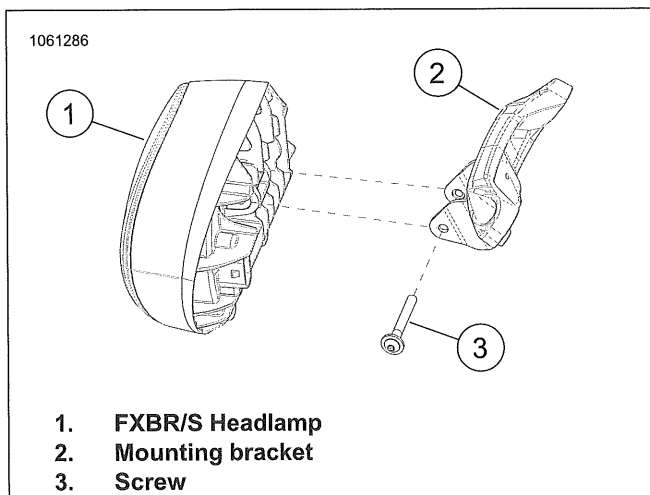
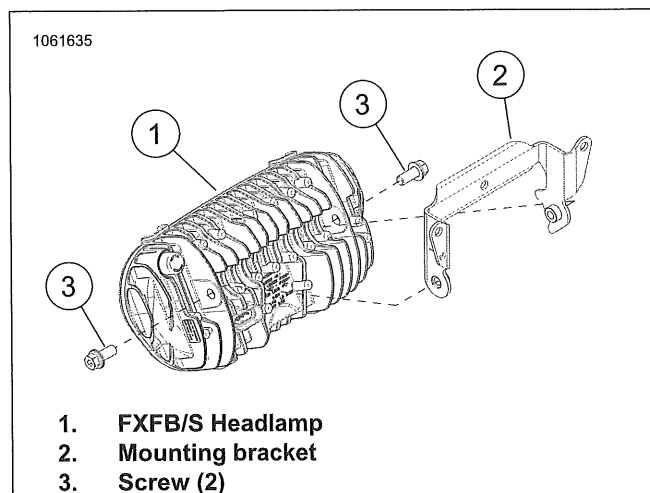

Figure 7-54. Headlamp Adjustment
Figure 7-55. Headlamp Adjustment
1. See Figure 7-54 and Figure 7-55. Loosen vertical adjustment screw (3). Adjust headlamp vertically until beam centers on horizontal line.
2. Tighten vertical adjustment screw (3):
- a. **FXBR/S** See Figure 7-54.
- b. **FXFB/S** See Figure 7-55.